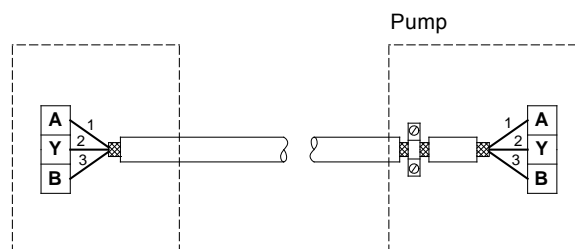

Fig. 17 Connection with screened 3-core cable
- If the unit has no cable clamp as shown in fig. 17, leave the screen unconnected at this end.